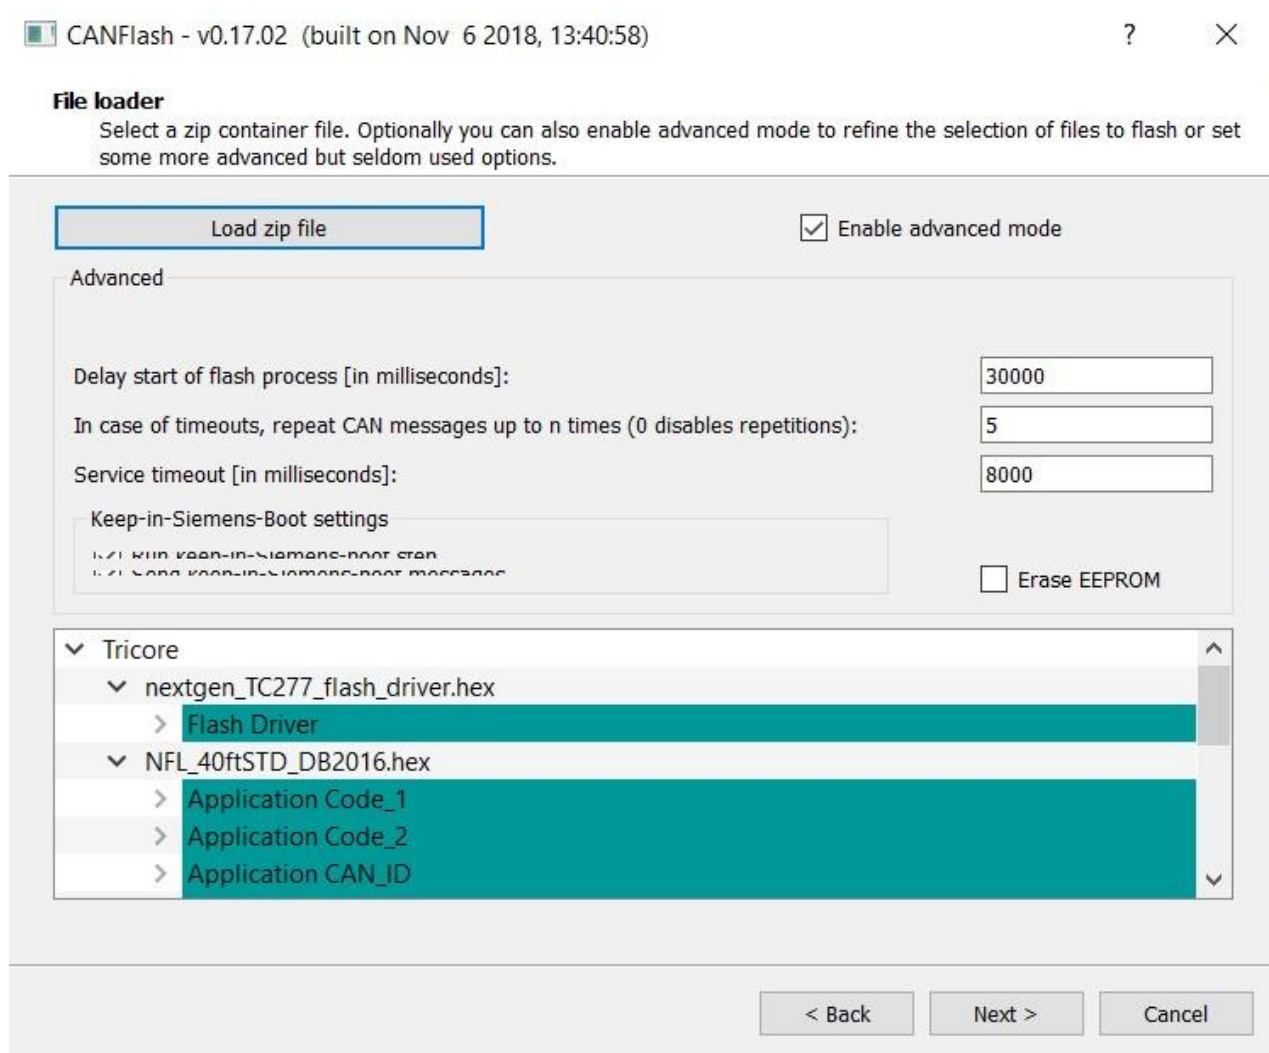

Figure 5: Advanced settings for CANFlash
20. Click the **Enable advanced mode** button. Change the **Delay start of flash process** box to 30000. Change the **repeat CAN messages** box to 5 (see figure 5 below). Click Next when complete.